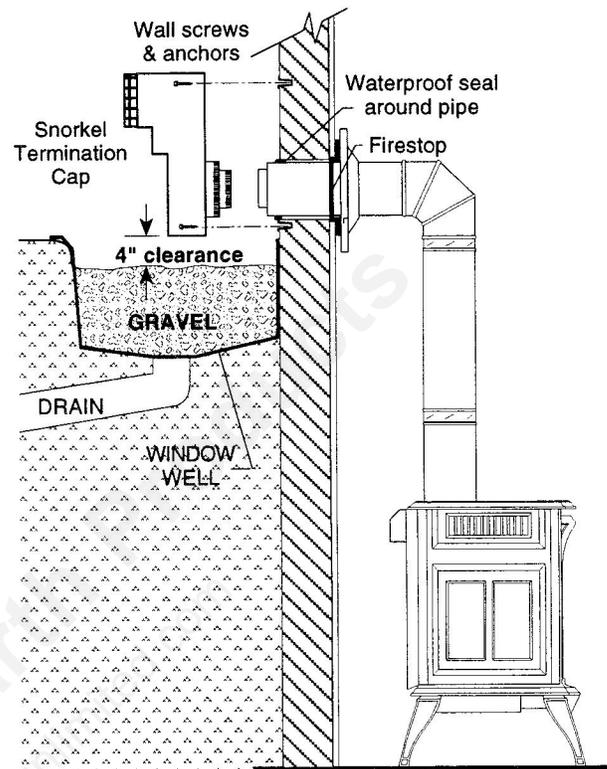

Figure 38. Snorkel kit installation.
Snorkel Vent Kit #7FSDVSKS should be installed when it is not possible to meet the required vent termination clearances of 12 inches (305mm) above grade level. The snorkel kit will allow installation depth of down to 7 inches (178mm) below grade level. The 7 inches is measured from the center of the horizontal vent pipe as it penetrates through the wall. **If the venting system is installed below ground, a window well must be installed with adequate and proper drainage. See Fig. 38.**
2. Remove soil to a depth of approximately 16" below the base of the snorkel. Install a window well (not supplied). Refill the hole with 12" coarse gravel and maintain a clearance of at least 4" below the snorkel. See Fig. 38.